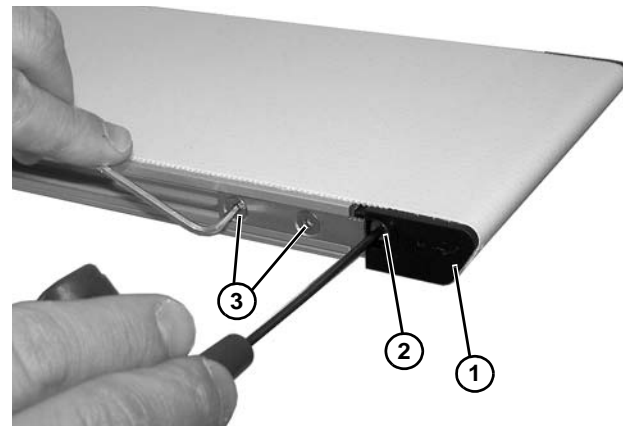

Figure 28
1. On tension end of the conveyor, adjust idler end (**Figure 28, item 1**) tracking cam (**Figure 28, item 2**) to adjust head plate assembly just enough to remove slack in the belt.
2. Tighten screws (**Figure 28, item 3**) to 12 in-lb (1.4 Nm).